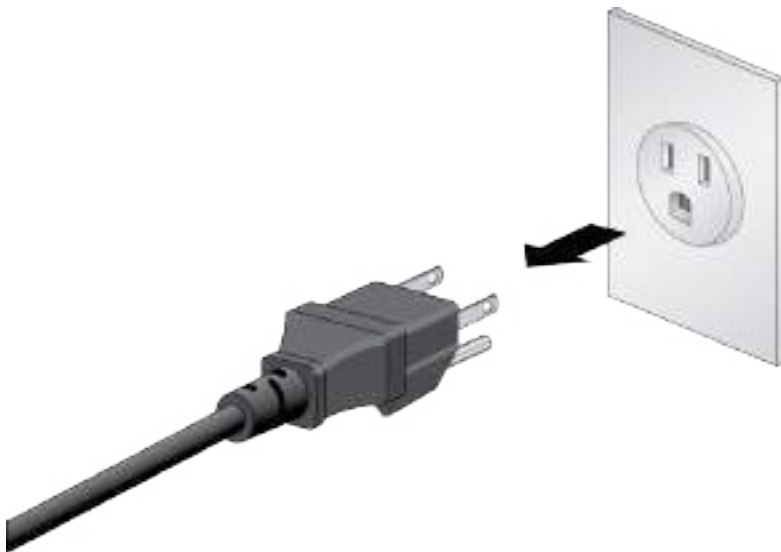

Figure 128. Disconnecting the AC Power Cord from the Power Source
1. Disconnect the AC power cord for the power supply from the AC power source. Refer to Figure 128.